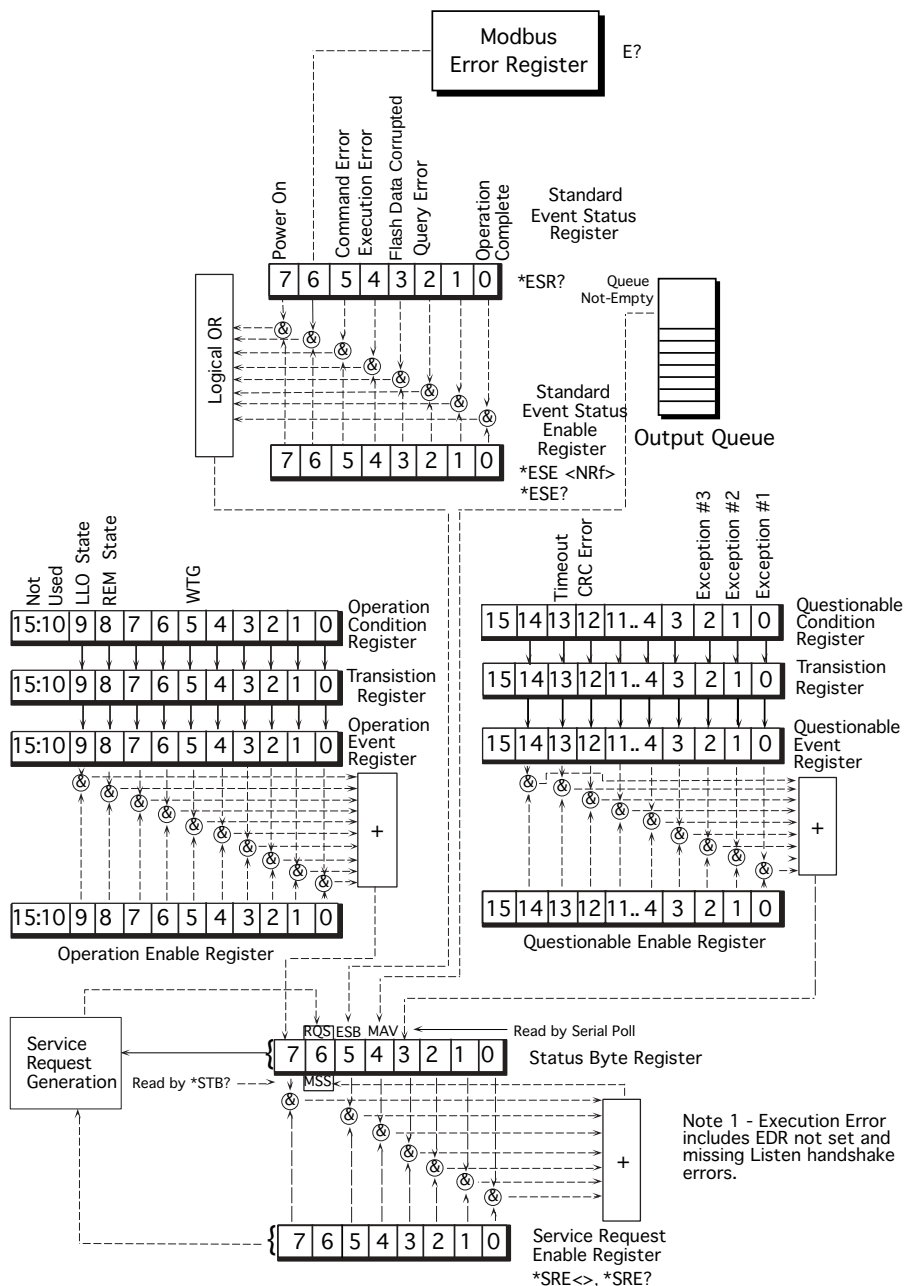

Figure 3-1 4809/4819/4899 Status Reporting Structure
The 4899 includes the expanded IEEE-488.2 status reporting structure shown in Figure 3-1. The expanded status reporting structure conforms to the SCPI 1994.0 Specification and builds on the IEEE 488.2 Standard status structure with the addition of the Questionable, Operation and Modbus Error registers. The Event and Status registers are controlled and queried with the IEEE-488.2 common commands. The Status Byte Register may also be read by serial polling the 4899. The added Questionable and Operation registers are controlled and queried with SCPI commands. The Modbus Error register is read and cleared with the Modbus E? command.
As shown in Figure 3-1, IEEE 488.2 SRQ generation is a multilevel function and is determined by the occurrence of an event that has its corresponding enable bit set to '1'. The register outputs are summarized in the Status Byte Register which generates the Service Request and pulls the SRQ line low. SRQs are used to signal the bus controller that an event has occurred and/or that the 4899 needs service. There are four major sources of SRQs, each of which is summarized in a bit in the Status Byte Register. Three of the sources are event registers with their own enabling bits and the fourth is the Output Queue. The Event registers and the Output Queue are cleared when read or by the *CLS command.
The Questionable Registers lets the user read bits that report CRC errors, Exception message types or a timeout (no response message received). Bit alignments are shown in Figure 3-1. The Questionable Transition Register filters the inputs and passes only the enabled state changes to the Questionable Event Register. The Questionable Event Register bits becomes true (1) when the positive transition bit is enabled and the associated condition register bit makes a 0 to 1 transition. When both transitions are selected for the same bit, the corresponding Questionable Event Register bit sets whenever the digital input changes state. The Questionable Event Register is cleared when it is read.